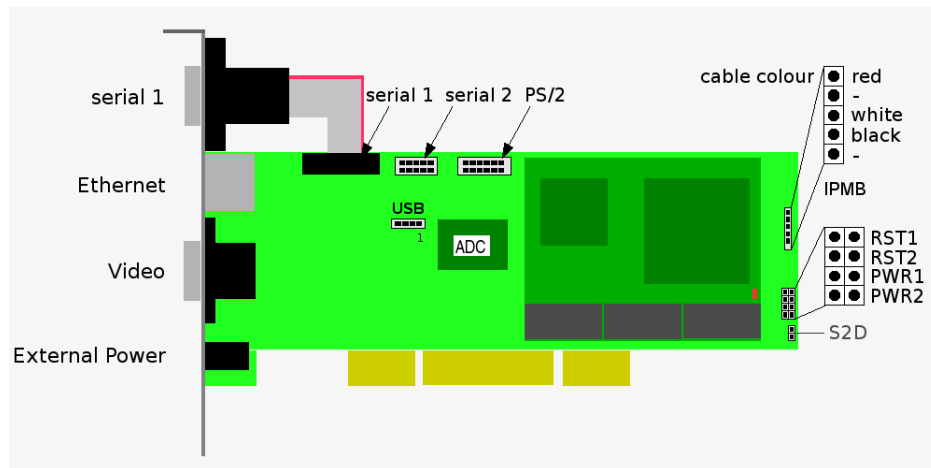
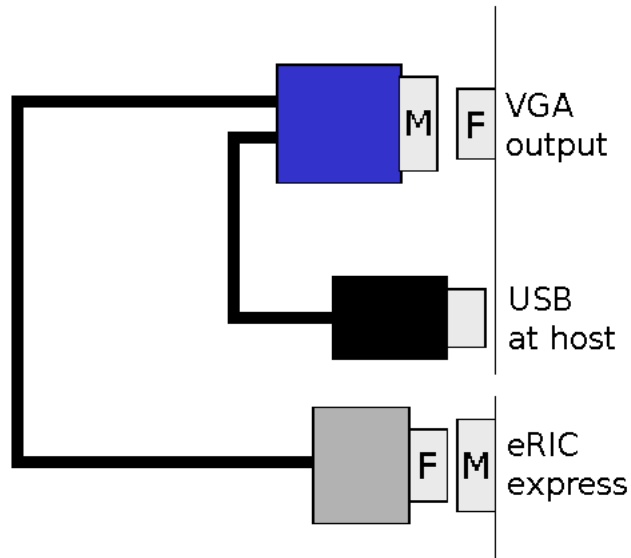

Figure 3-1. eRIC express internal connectors
Figure 3-2. eRIC express Video/USB connector cable
Figure 3-1 and Figure 3-2 show all connectors and plugs of the eRIC express. Each of these connectors will be explained in the following.
- Connect the 5 pin connector of the IPMB cable with the 1x5 pin IPMB connector on the eRIC express as shown in Figure 3-1.
In case your system provides separated pins for reset and power on/off, obey the following steps while referring to Figure 3-1.